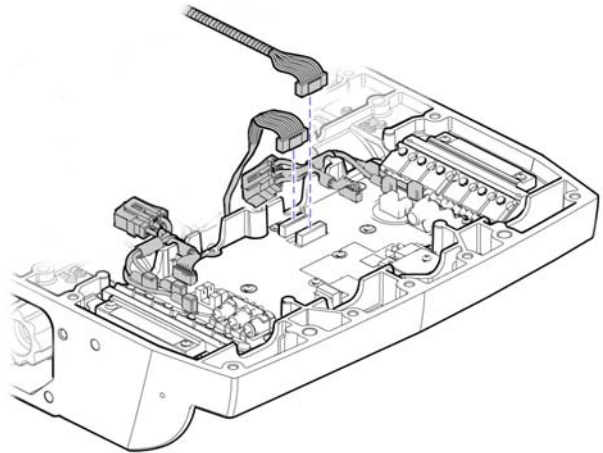

Figure 11-3: Disconnect Harnesses from CU Board
7. Disconnect balance sensor assembly harness and CU harness from CU board by squeezing plastic tab on connector and gently pulling connector. See Figure 11-3.